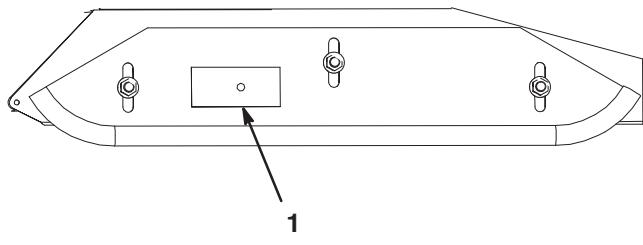

Figure 6
2. Affix a reflective tape strip onto each wing deck skid, positioning as shown in figure 6. The tape strip must be in clear view from the back of the machine.